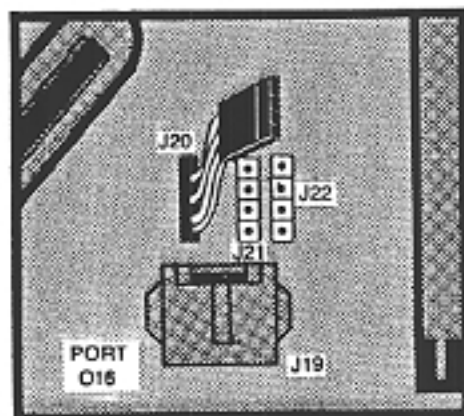

Figure 7-2 SERVICE TELEPHONE CONNECTION, TCX-128
- Strap J20 to J21 ( Figure 7-2 ).
- Connect the service telephone to J19 ( Figure 7-2 ).